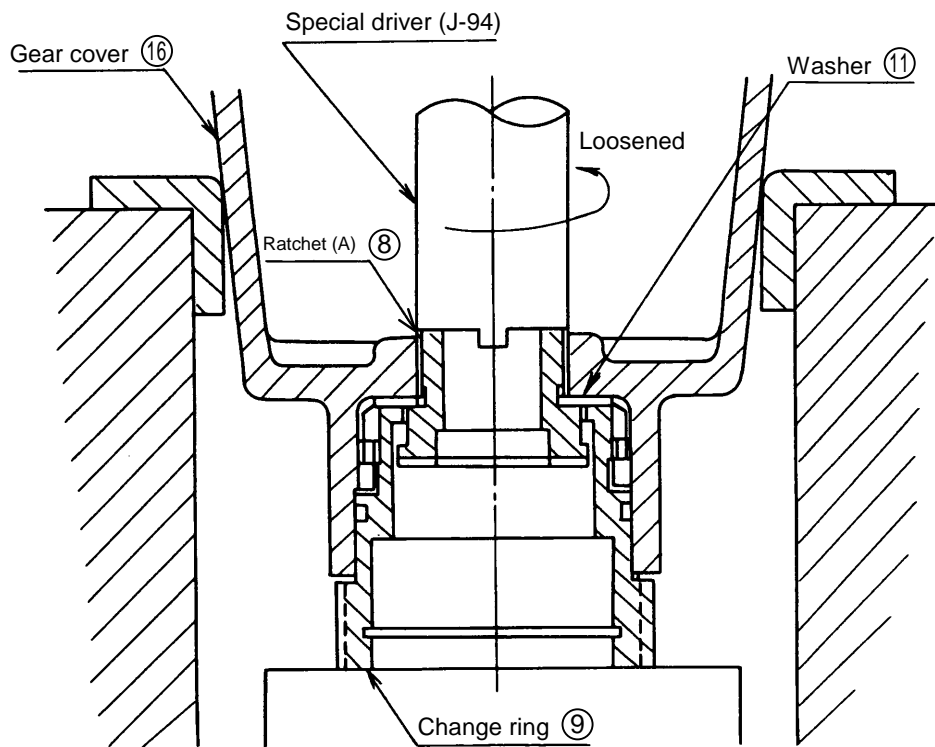

Fig. 7
Ratchet (A) ⑧ is fixed against gear cover ⑩ with M20 left handle screw. Therefore, it can be loosened when J-94 special driver is set matchingly to the groove provided on the side opposite to the ratchet tooth part as shown in Fig. 7 and rotated anticlockwise.